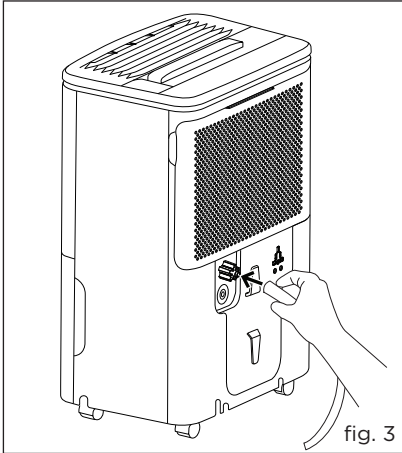

fig. 3
- e. Connect one end of the drainage hose to the drainage adaptor. Make sure the hose is secure so there are no leaks. (fig.3)